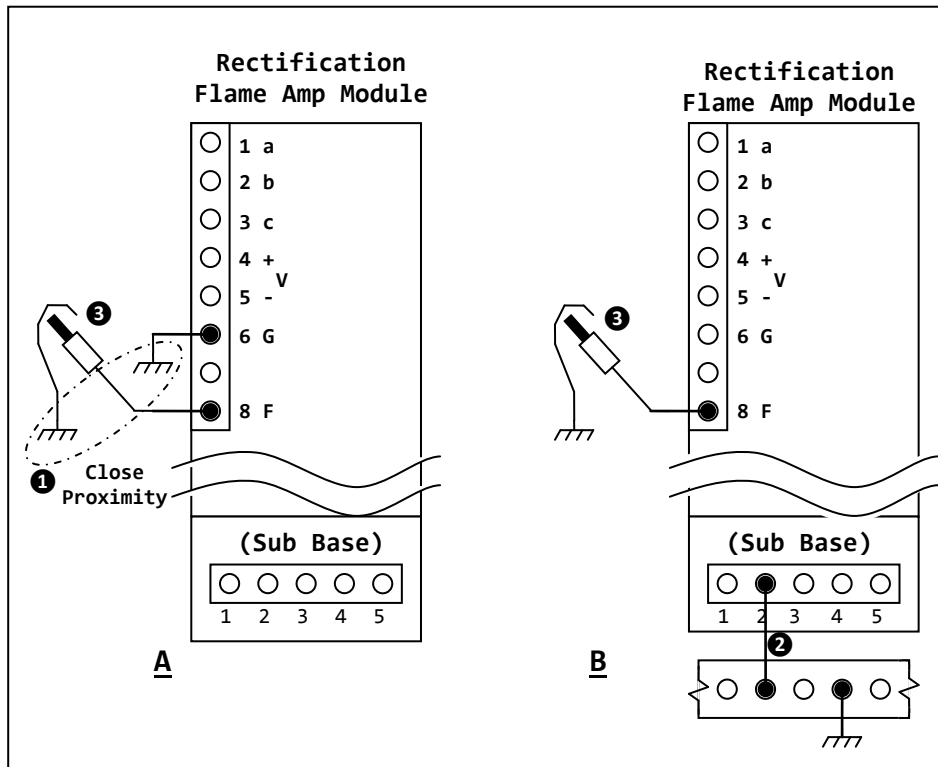

Figure 3: Rectification Flame Amplifier Connections
The Rectification Flame Amplifier module requires the SLATE system ground be connected to the burner ground (typically Earth ground). Drawing A in Figure 3: Rectification Flame Amplifier Connections shows best practice for a SLATE system that does not have any other points tied to earth ground. If the SLATE system ground is already connected to burner (Earth) ground, the wire from terminal G to earth ground is not required (see drawing B).
- 3 See Figure 3: Rectification Flame Amplifier Connections for alternate grounding schemes for the G terminal.